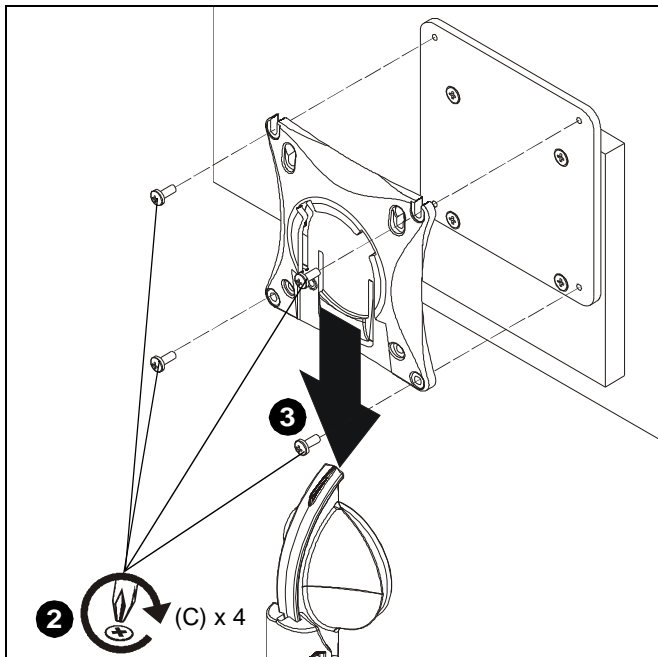

Figure 2
2. Use four M4 x 10mm Phillips pan machine screws (C) (black) to secure K1 Series faceplate to interface bracket (A). (See Figure 2)
3. Slide K1 Series faceplate back onto mounting head. (See Figure 2)